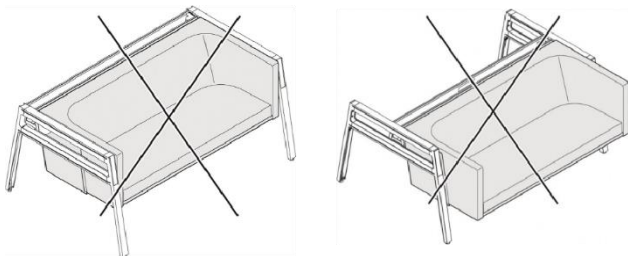

Figure 20 Sofa, impermissible attachment
- In the basic components (feet and cable duct) instead of a desktop of a single workstation (see Figure 20 left).
- In the basic components (feet and cable duct) instead of a desktop of a dual workstation (see Figure 20 right) without mounting an attachment on the opposite side.